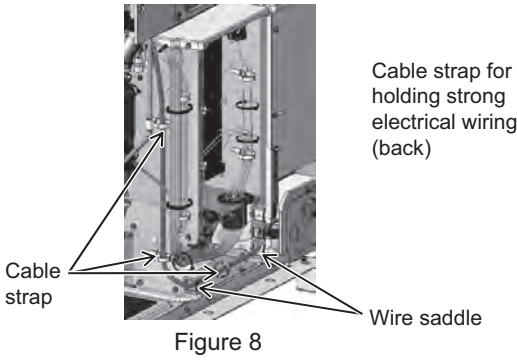

Figure 8
- (11) Loosen the three cable straps holding the motor wiring outside and at the bottom of the main control box, and remove the wire from the two wire saddles. (See Figure 8.)